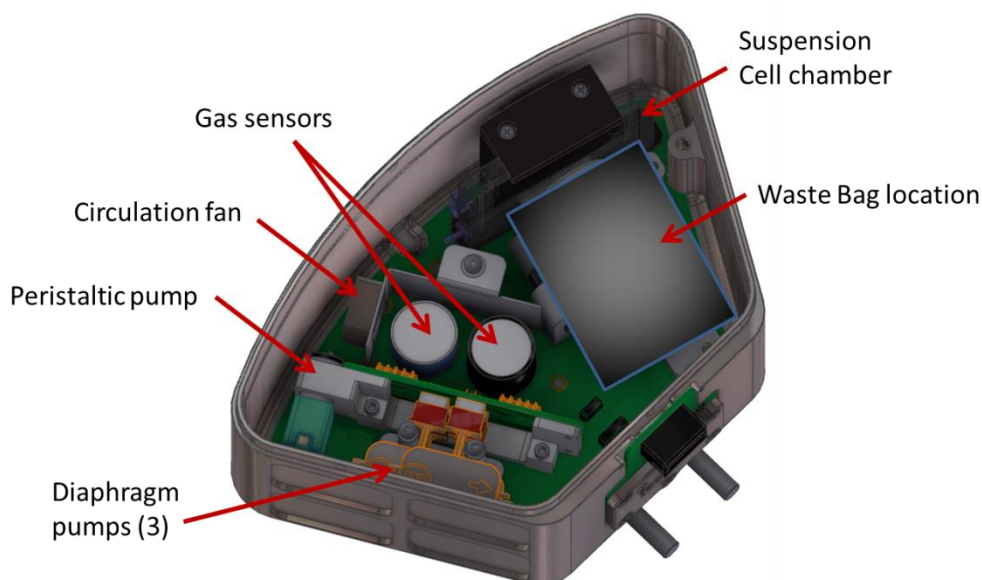

Figure 2 – Suspension Cell Experiment module. Not shown are the lid, tubing and fluid supply bags.
- 1.3.1 The anatomy of the Suspension Cell Experiment module is shown in Figure 2. For this figure, the lid, tubing and bags have been removed.